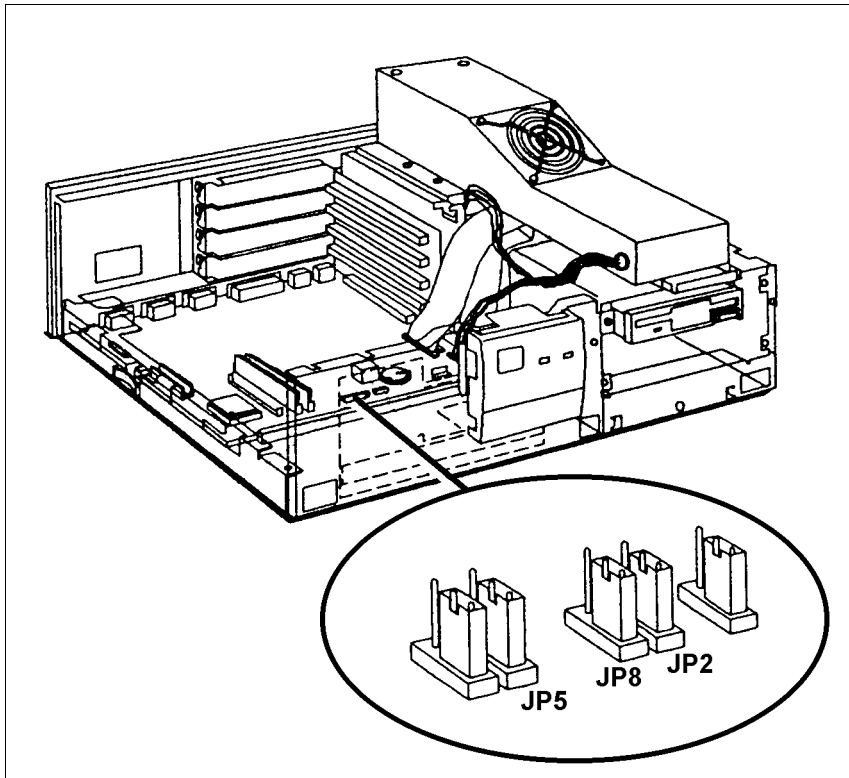

Figure 2-7. Disabling VGA on the Mother Board
12. Disable the on-board VGA adapter by moving the JP8 jumper on the mother board from pins 2-3 to pins 1-2 (Figure 2-7).